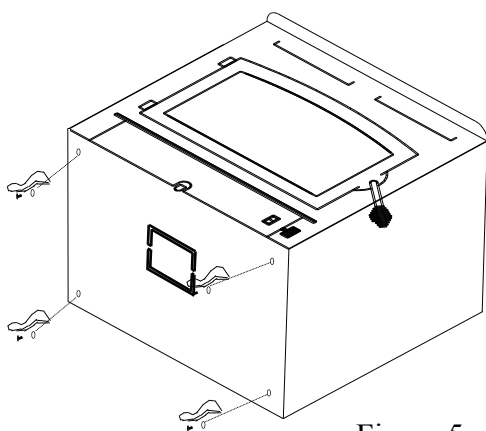

Figure 5
6. Then obtain four legs, attach the legs to holes in bottom of unit with bolts and washers supplied with the leg kit. (See Figure 5.)